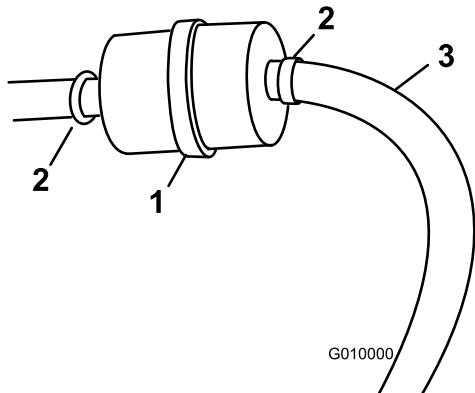

Figure 52
3. Loosen the hose clamps and slide them away from the filter (Figure 52).
5. Install a new filter to the hoses and secure the hose clamps (Figure 52).
3. Loosen the hose clamp at the fuel filter and slide it up the fuel line away from the fuel filter (Figure 52).
4. Disconnect the fuel line from the fuel filter (Figure 52).
Note: Allow gasoline to drain into a fuel container can or drain pan (Figure 52).
5. Install the fuel line onto the fuel filter. Slide the hose clamp close to the fuel filter to secure the fuel line (Figure 52).